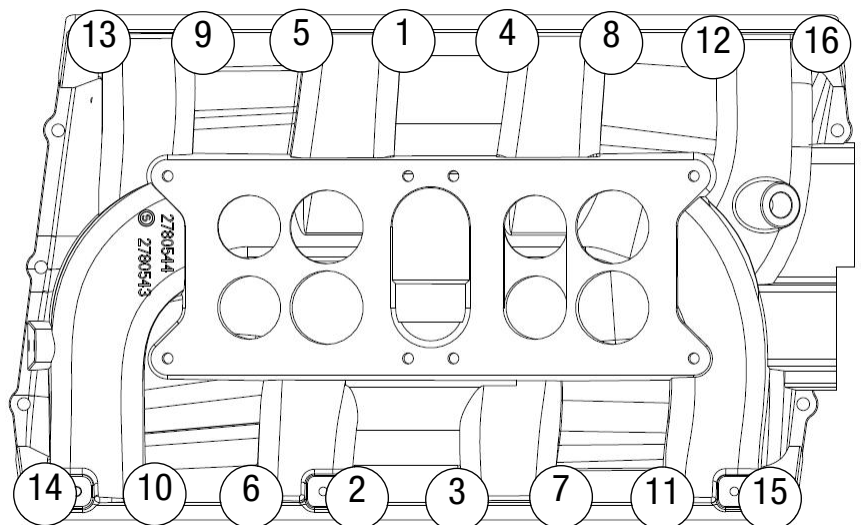

FIGURE 1
5. Install the intake manifold and hold down bolts. Torque all manifold bolts in two steps by the sequence shown in Figure 1.